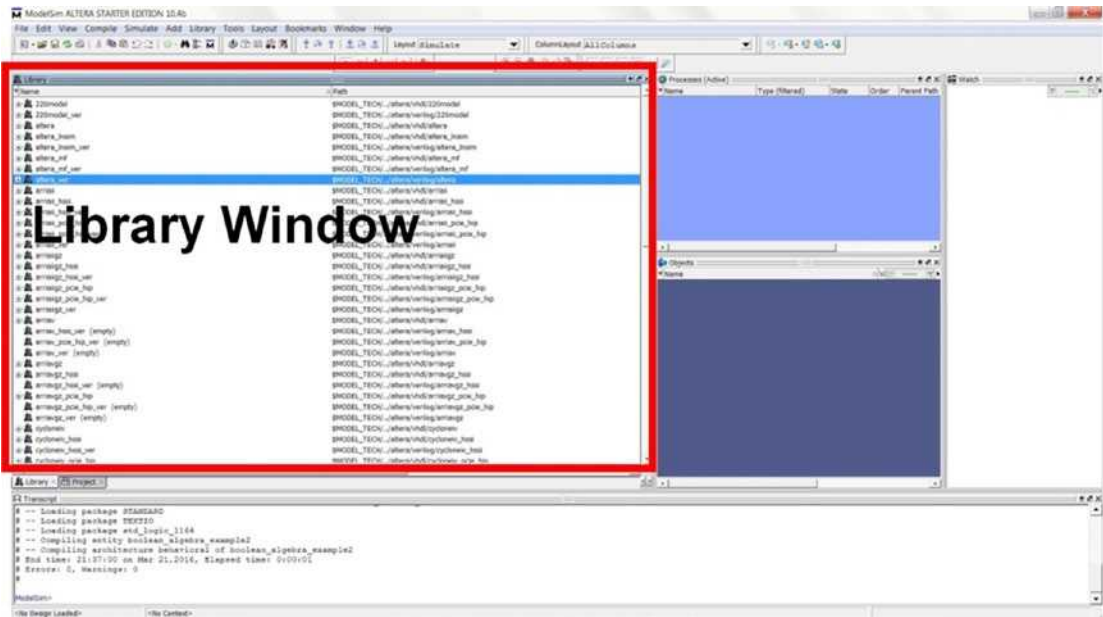

Figure 8-11. ModelSim Main window
8. The following two windows should pop up (see Figure 8-11 and 8-12)